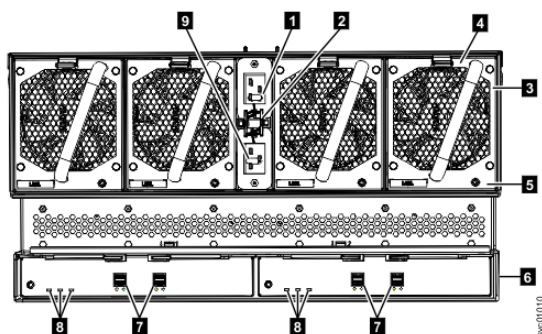
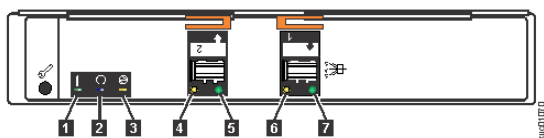

Figure 65. LEDs on the back of the expansion enclosure
Figure 66. LEDs on the back of the expansion canister
Table 30 on page 61 explains the function and status that is indicated by each of the LEDs. The power cords for each PSU are accessible from the rear of the expansion enclosure (1), as shown in Figure 65 on page 62.
Figure 65 on page 62 shows the rear view of a 2072-92F expansion enclosure. LEDs on the rear of the enclosure provide information about each fan module, each expansion canister, and SAS links.
The expansion enclosure has four fans. Each fan has one LED; for example, Figure 65 on page 62 shows the location of the LED (5) for fan number four. When a fan is operating normally, the LED is not lit. If a fault is detected, the amber LED is lit.
As Figure 65 on page 62 also shows, the expansion enclosure contains two expansion canisters. Each expansion canister contains its own set of LEDs, as shown in Figure 66 on page 63. The LEDs provide status information about the expansion canister itself and the SAS connections.